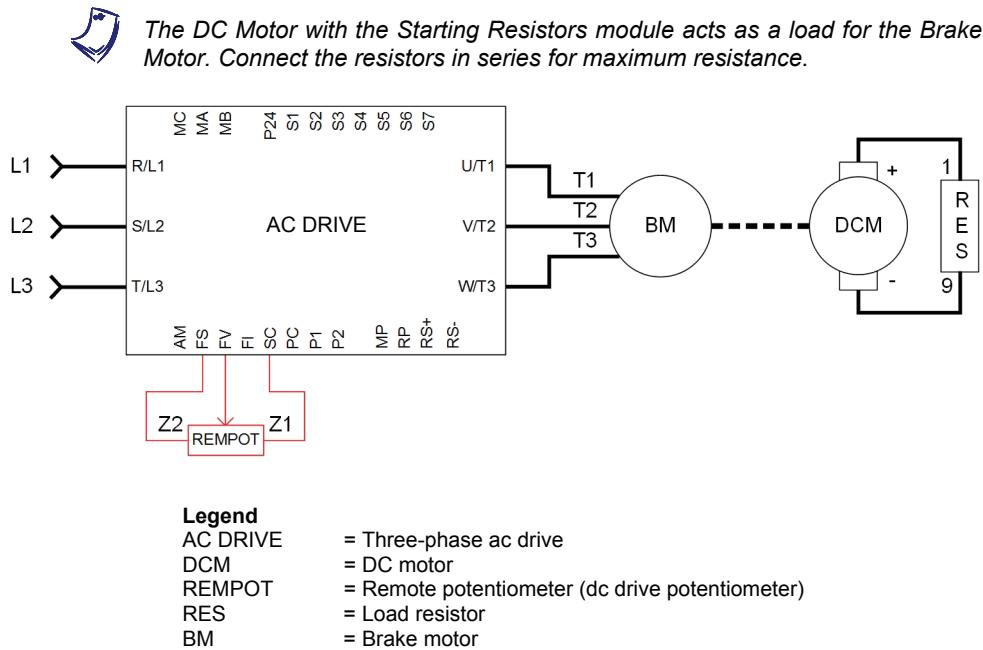

Figure 1-13. Connect the Starting Resistors module to the DC Motor.
- 13.** Connect the Starting Resistors module to the DC Motor as shown in Figure 1-13.